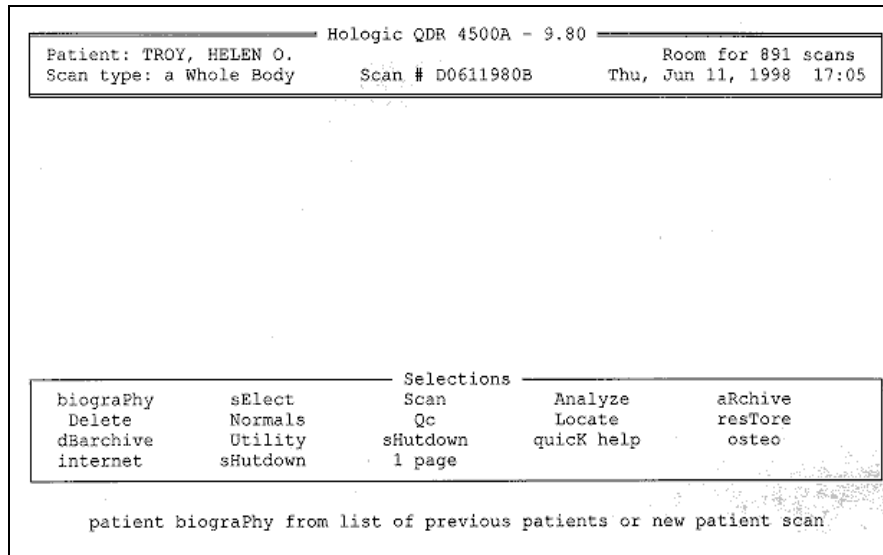

Figure 6-1. Main selections menu
- At the main 'Selections' menu (Figure 6-1), highlight QC and press 'Enter' (or type 'Q').